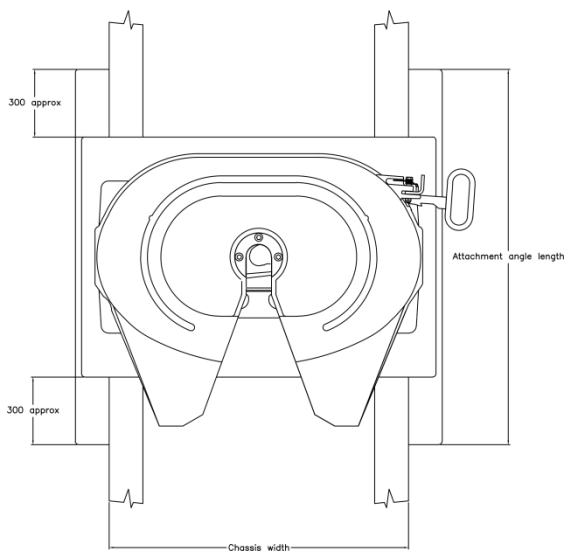

Figure 15: Attachment angle length
- Ensure the length of the attachment angle (or fish plate overall spacing) is greater than the chassis width, and is approximately 600 mm longer to avoid abrupt section change and distribute load more evenly (see Figure 15).